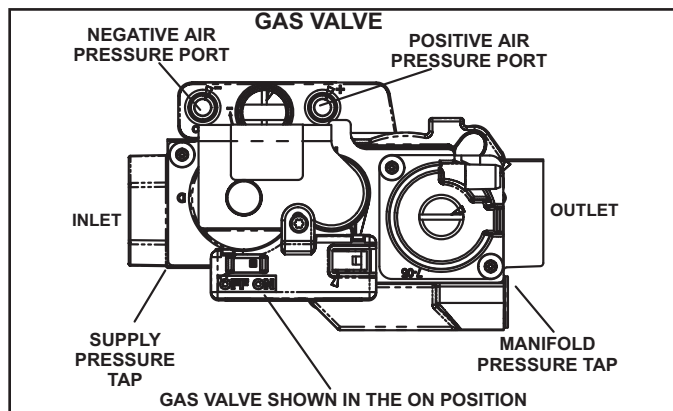

FIGURE 50
Gas Valve Operation (FIGURE 50)
- 6 - Move gas valve switch to OFF. See FIGURE 50.
- 8 - Move gas valve switch to ON. See FIGURE 50.